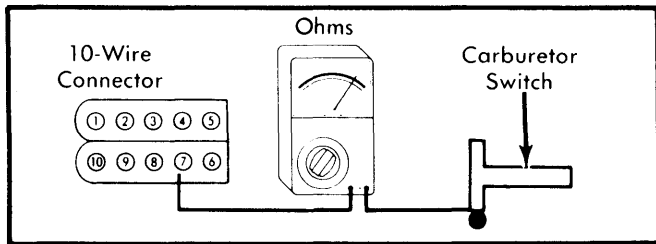
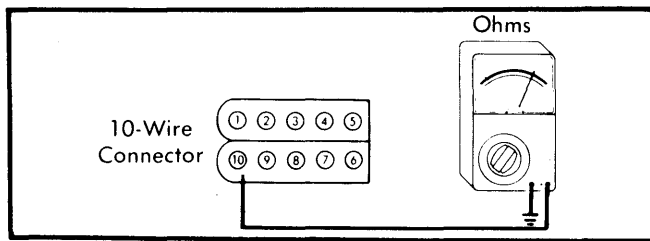

Fig. 11 Ohmmeter Hook-Up for Checking Carburetor Switch Wiring Harness
Fig. 12 Ohmmeter Hook-Up for Checking Computer Ground Circuit
9) If voltage at terminal 2 was correct, turn ignition switch off. Check continuity between terminal 7 of 10-wire connector and carburetor switch terminal. See Fig. 11. Continuity should exist. If not, check wire for opens, shorts or poor connections. If continuity is present, use an ohmmeter to check continuity between terminal 10 and engine ground. See Fig. 12. If there is continuity, replace computer. If there is no continuity, check wire from terminal 10 to ground. If engine fails to start, proceed to next step.